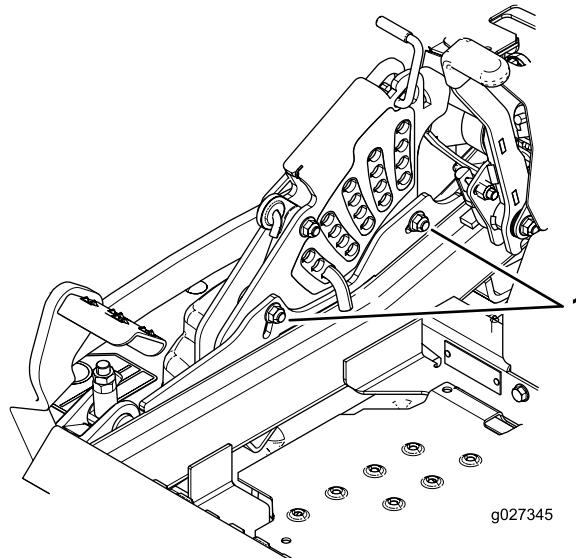

Figure 101
11. To adjust the single-point system, loosen the 2 bolts at the bottom of the height-of-cut plate (Figure 101).
13. Tighten the 2 bolts at the bottom of the height-of-cut plate (Figure 101).